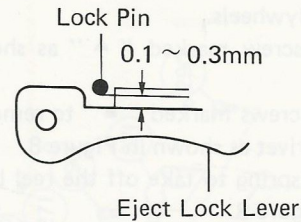

Figure 4
- (2) After replacing the keep solenoid with a new one, install it in the opposite way to disassembly and adjust the mounting position of the eject lock lever as shown in Figure 4.